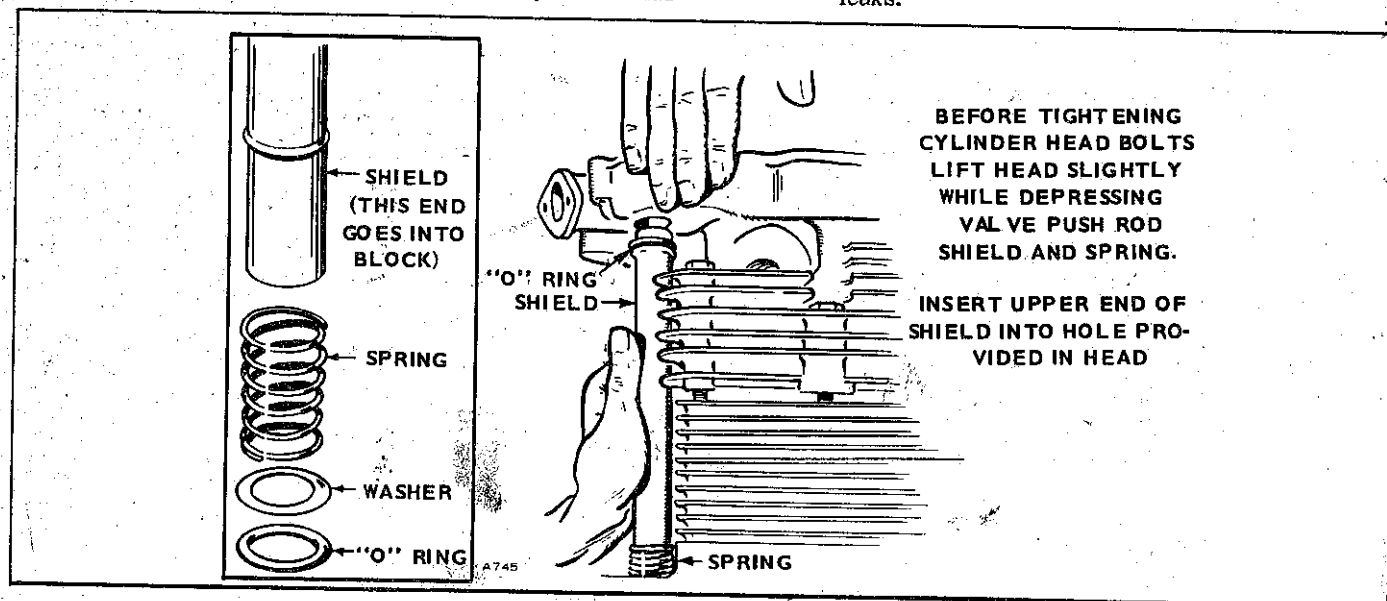

FIGURE 59. INSTALLING PUSH ROD HOUSING
6. Make up push rod shield assemblies by installing an "O" ring on one end of the rod and a spring, washer, and "O" ring on the opposite end. Lift the cylinder heads and install the pushrod shield assemblies (Fig. 59).